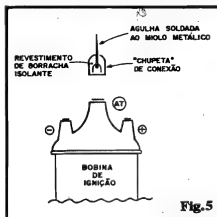

Fig.5
- **FIG. 5 - DETALHE DA "AGULHA" DO CENTELHADOR (TERMINAL DE ALTA-**